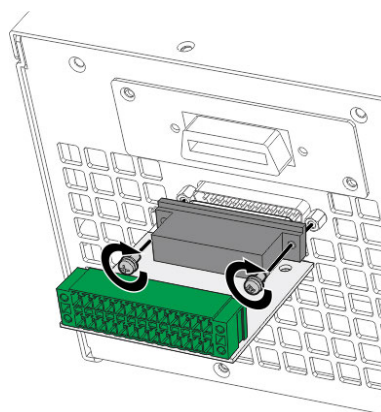

Figure 1-4 Installing Analog Terminal Docking Board
2. Figure 1-4 shows the docking board of Analog terminal on the rear panel. The installation is shown below.